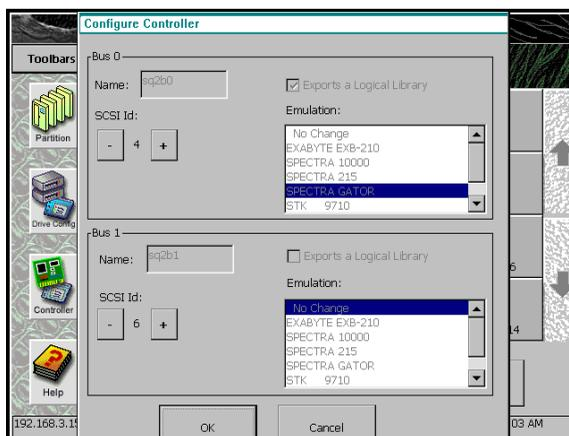

Figure 5-4 *The Configure Controller window.*
4. In the Drives section, select the controller you would like to configure by tapping the drive it is connected to. Tap **Configure Controller**. This brings up the Configure Controller window (Figure 5-4).